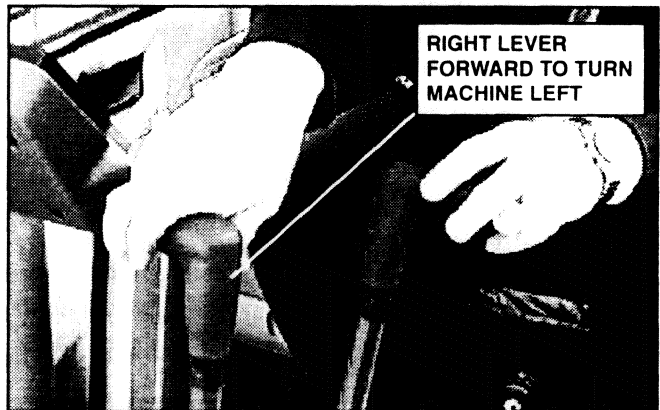

FIGURE 3.27
- c. Push the R.H. Travel Lever toward front of machine to turn machine to the LEFT in forward motion. See Figure 3.27.
- d. Pull R.H. Travel Lever toward operator seat to turn machine to the RIGHT in reverse motion. See Figure 3.27.